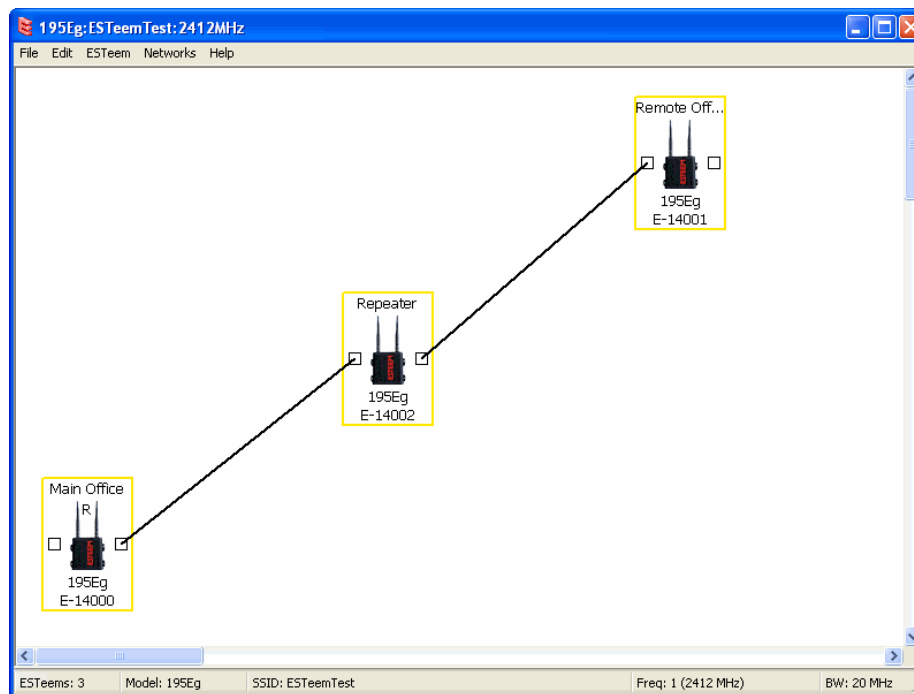

Figure 15: Example 2 Layout
2. Move the ESTeem 195E icons on the screen to simulate the layout of the diagram. Draw connection lines between the modems to make the wireless link in the same order as the network layout (Figure 15).